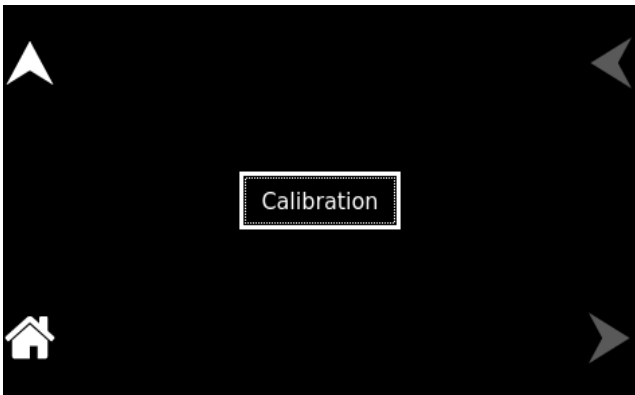

Figure 8-196. LCD
**LCD** Provides settings for the calibration of the display touchscreen. Refer to Figure 8-196.